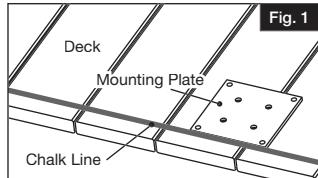

Fig. 1
- b. Determine the desired rail placement and snap a chalk line onto the mounting surface to ensure that all posts are aligned properly (Fig 1).